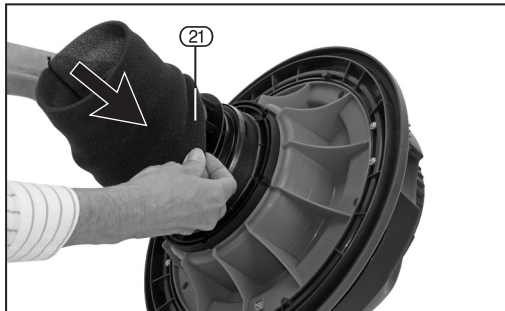

FIG. 13
7.8 CHANGING SETUP FROM DRY TO WET VACUUMING – FIG.13
- Remove the cartridge filter (14) if fitted.
- Now fit the anti foam filter (12). This slides over the float cage as shown.